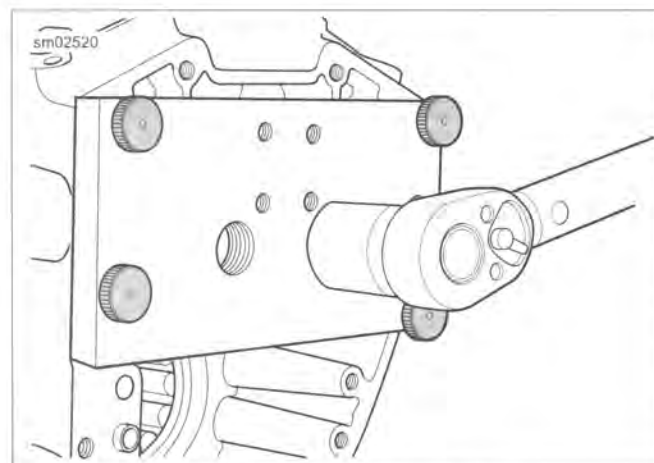

Figure 3-103. Bearing Installation
10. See Figure 3-103. Hold flat on collet to prevent rotation and expand collet by turning hex at end of shaft clockwise. Expandable end of collet makes contact with needle bearing ID.
- a. See Figure 3-103. Turn forcing screw clockwise to press needle bearing into bore.